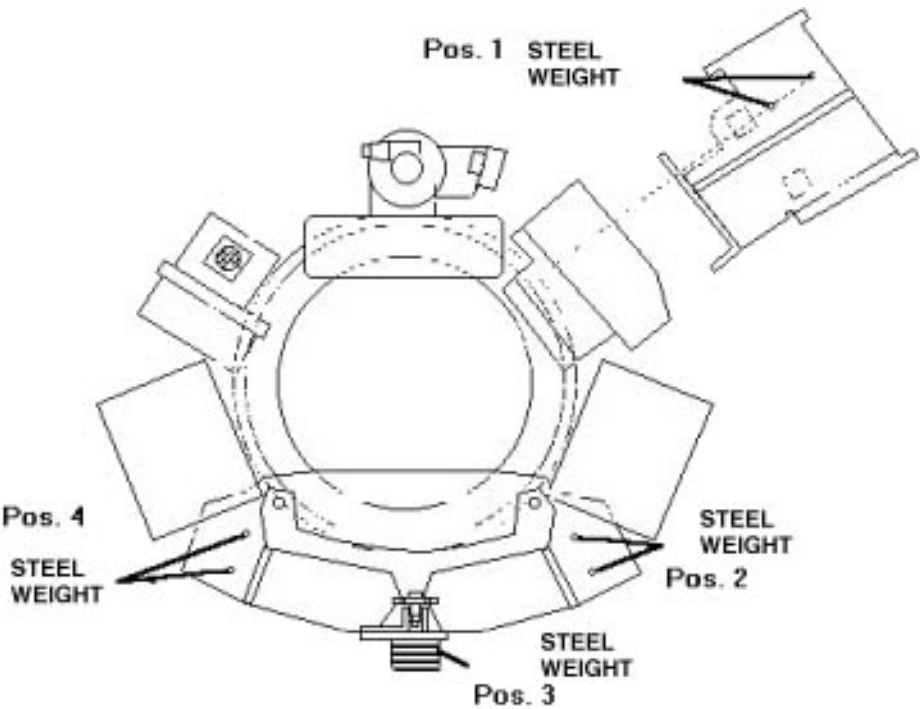

Figure 11-6 Gantry Static Balance Weight Locations
- 6.) If $F_D - F_U$ is greater than 6 lbs, balance weights must be added or removed at one or more of the 4 positions. See Figure 11-6. Balance weight part number 46-297604P1. Small balance weights are approximately 2 lbs each.